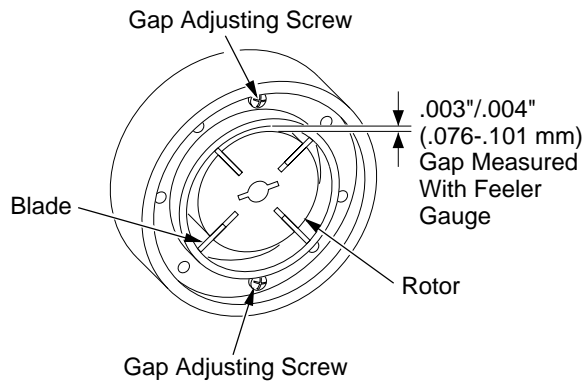

Figure 25 - Gap Adjusting Screw Locations
9. Check gap on rotor. Adjust to .003"/.004" if needed (see Figure 25).